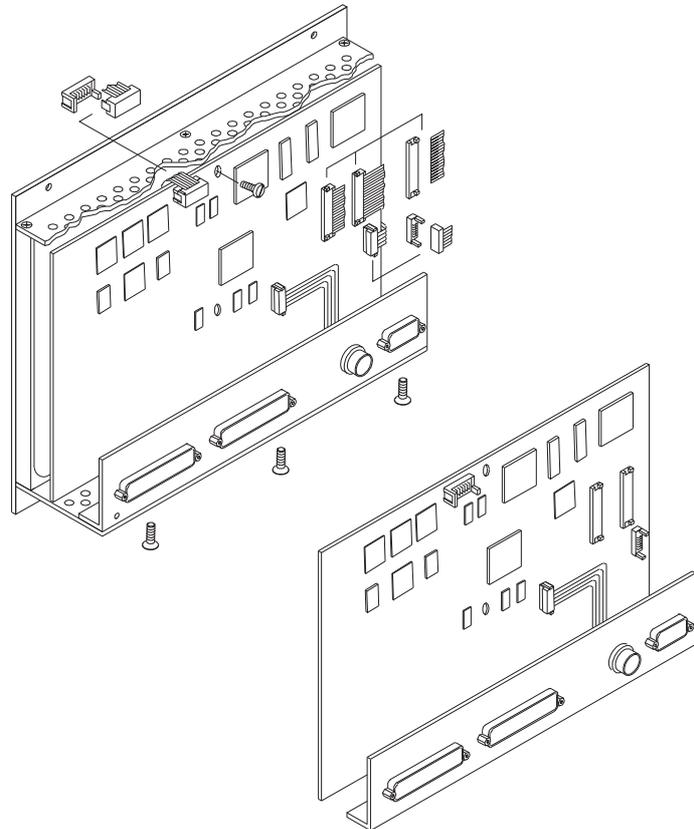

Fig. E 8-14: Loosening flat cables and removing mounting unit of main pcb and connector panel
5. Carefully loose the lockers and take out flat cables. Take out all other flat cables as well (Fig. E 8-14). Asure not to damage any cable!
7. Remove the mounting unit of main pcb and connector panel. Store them at a safe place (Fig. E 8-14).